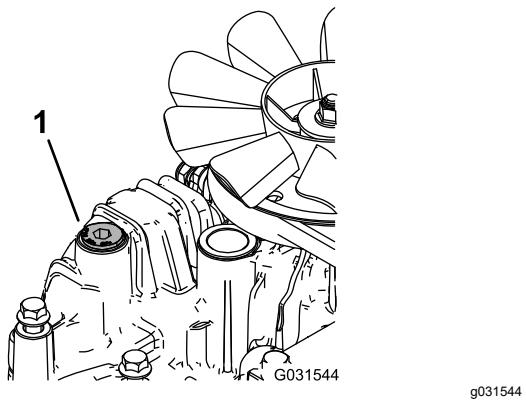

Figure 73
- 11. Loosen the vent plug in each transmission so that it is loose and wobbles (Figure 73).